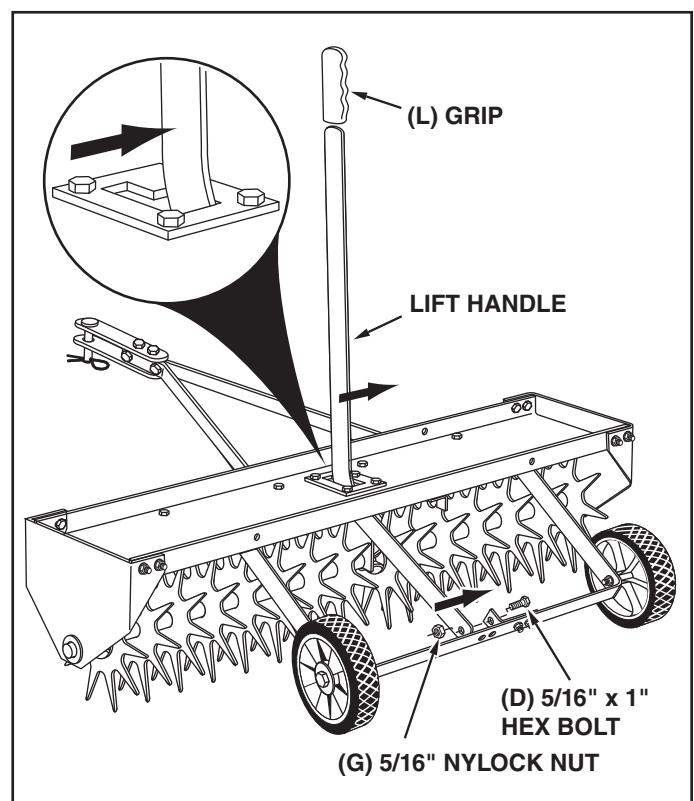

FIGURE 7 REAR VIEW
13. Assemble the lift handle through the tray and attach it to the hitch arm mount bracket assembled to the axle bracket. Use a 5/16" x 1" hex bolt (D) and a 5/16" nylock nut (G). **Tighten**. See figure 7.
14. Position the hitch arm mount bracket so that there is side tension on the lift handle when it is locked in the up position. **Tighten** the nuts. See figure 7.
15. Assemble the grip (L) onto the end of the lift handle. See figure 7.